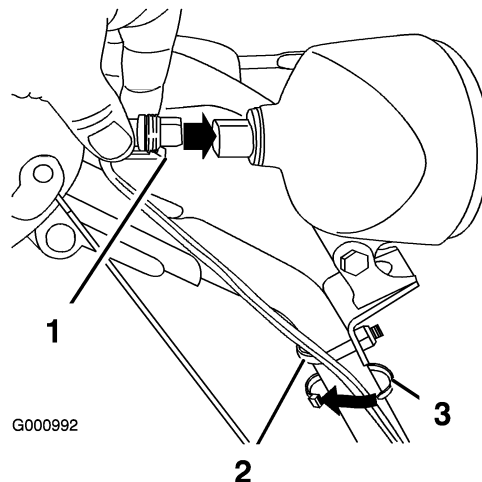

Figure 55
6. Insert the wire connector straight into the back of the headlight until it is securely in place (Figure 55).